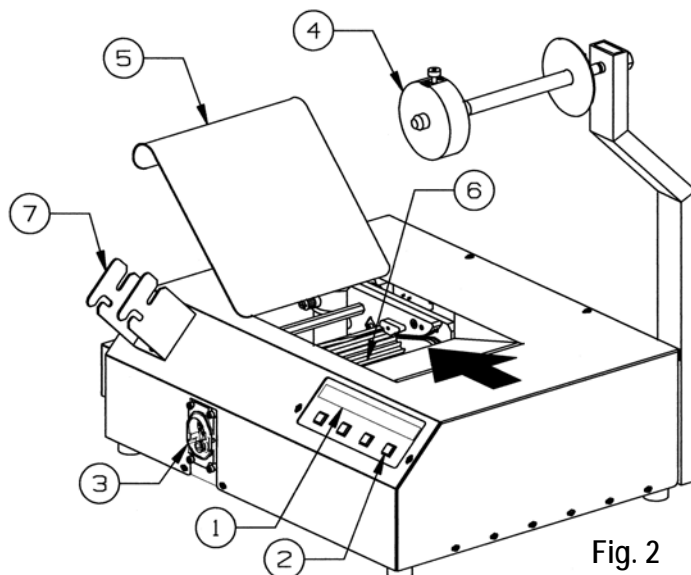

Fig. 2
After unpacking the components, mount the carrier strip scrap bin (See Figure 1) on the left side of the dispenser by positioning the larger holes in the bin over the cap screws on the dispenser, and sliding the bin down. Attach the tool holder bracket (See Figure 2 on Page 7) to the front of the dispenser by positioning the larger holes in the tool holder
The dispenser rotary receiver (Figure 2) will rotate slightly to align itself and the message "PANDUIT -- Tool is ready" will appear on the electronic display (Figure 2) for two seconds. The dispenser is now ready for loading.
3. Remove the cable tie reel from the protective plastic bag. Remove the corrugated cardboard wrap from around the cable ties. Remove the collar from the reel axle by pulling out on the release pin while sliding the collar off (See Figure 2). Carefully slide the cable tie reel onto the reel axle so that the reel turns clockwise as the cable ties are dispensed. Remove the cellophane tape from the end of the cable tie strip and discard. Replace the collar on the reel axle by pulling out on the release pin while sliding the collar on the axle until the pin locks the collar in place.
4. Open the tie guide door (See Figure 2), on the top of the dispenser, by pulling the door "up". Pull the end of the cable tie strip and guide the cable tie carrier strip against the back edge of the ramp as the cable ties enter the cover opening. Slide the carrier strip into the opening until it stops (See Figure 2). At this point, the first cable tie is positioned in the rotary receiver slot. Close the tie guide door. While maintaining a slight inward pressure on the cable ties, press the "Load" button once, to feed the first cable tie. If the carrier strip and cable tie are fed correctly, press and HOLD the "Load" button until 13 more cable ties are fed. As each cable tie is loaded, the number next to "Load" will decrease for each cable tie loaded. The dispenser cover must be closed and latched to load or cycle the system. The rotary receiver will not advance if the cover is open.